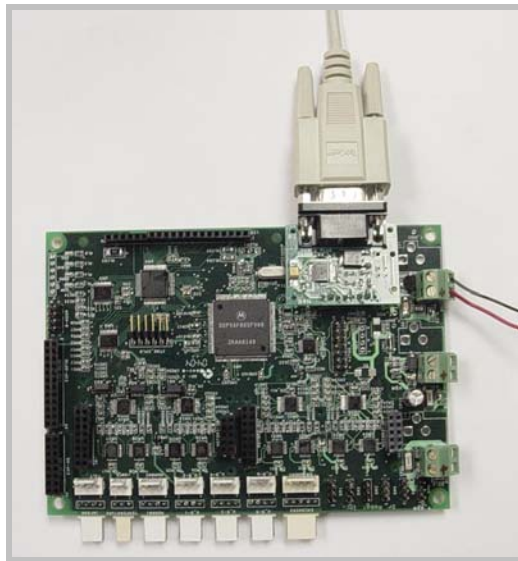

Figure III.1 Physical Connection
3. Use a null modem cable to connect the PC to PMS5005 with a RS232 Interface Module (MCR3210) as shown in Figure III.1. All peripheral modules (e.g. sensors, motors, LCD and etc.) can still be plugged to the PMS5005 without affecting the upgrade process